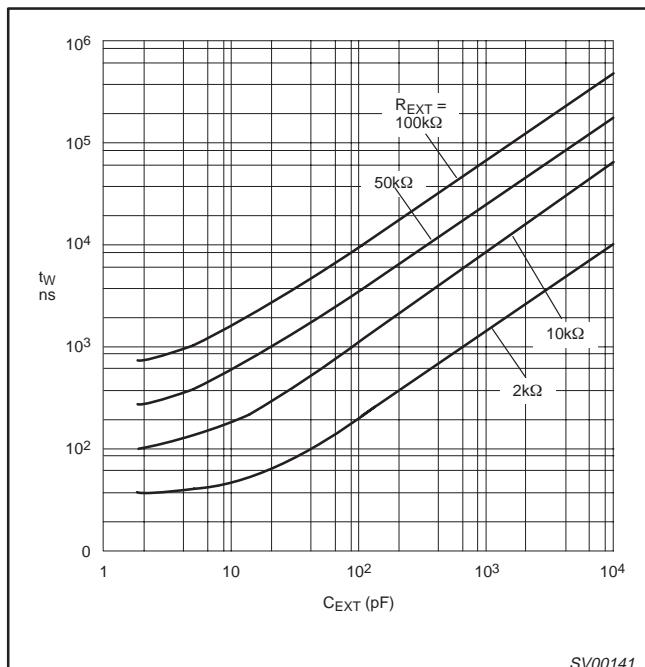

Figure 5. Typical output pulse width as a function of the external capacitor values at V_{CC} = 3.3V and T_{amb} = 25°C.
1. Unless otherwise stated, all typical values are at $T_{amb} = 25^\circ\text{C}$.2. Typical value measured at $V_{CC} = 3.3\text{V}$.3. Typical value measured at $V_{CC} = 5.0\text{V}$.4. For other R_{EXT} and C_{EXT} combinations see Figure 5.If $C_{EXT} > 10\text{nF}$, the next formula is valid: